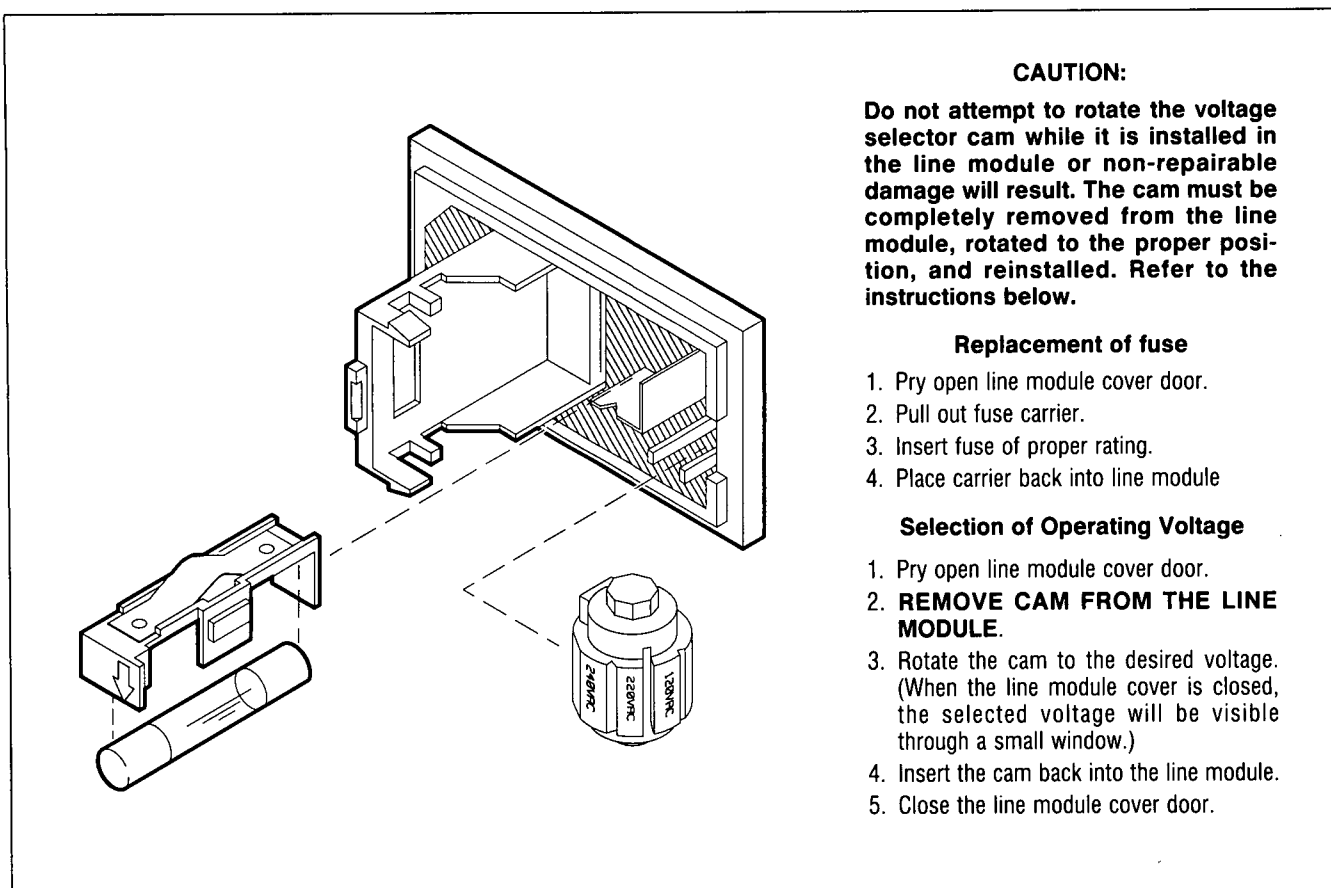

Figure 2-1. Power Line Module
Figure 2-1 illustrates the line voltage selection cam and fuse location in the power line module on the rear panel of the HP instrument. Select the line voltage and fuse rating as follows:
- b. Refer to Table 2-1. Remove the line voltage selection cam from the line module. Select the correct position of the cam (shown in Figure 2-1) by matching the measured ac line value to the correct range indicated in the table. Note that the line voltage ranges given are within $\pm 10\%$ of the nominal line voltage. If the available line voltage does not fall within this range, you must use an autotransformer between the power source and the HP instrument to bring the line voltage within tolerance.
- c. Install the line voltage selector cam in the power line module as shown in Figure 2-1.